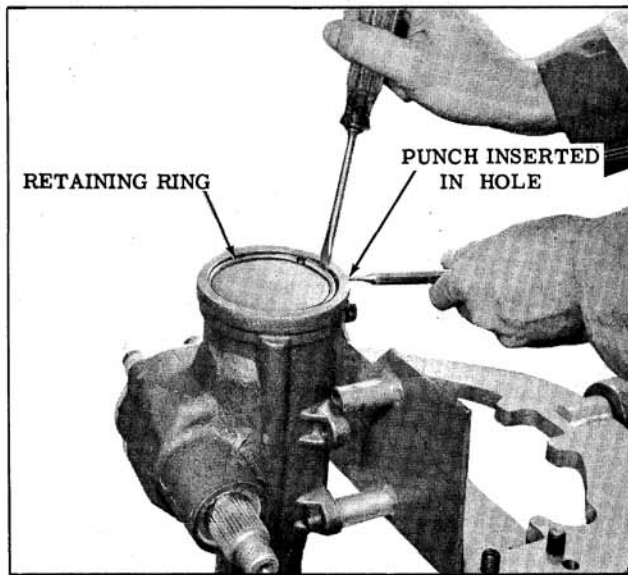

Fig. 8-43 Removing End Cover Ring
1. Rotate end cover retaining ring so that one end of the ring is over hole in side of housing then force end of ring from its groove and remove ring. (Fig. 8-43)